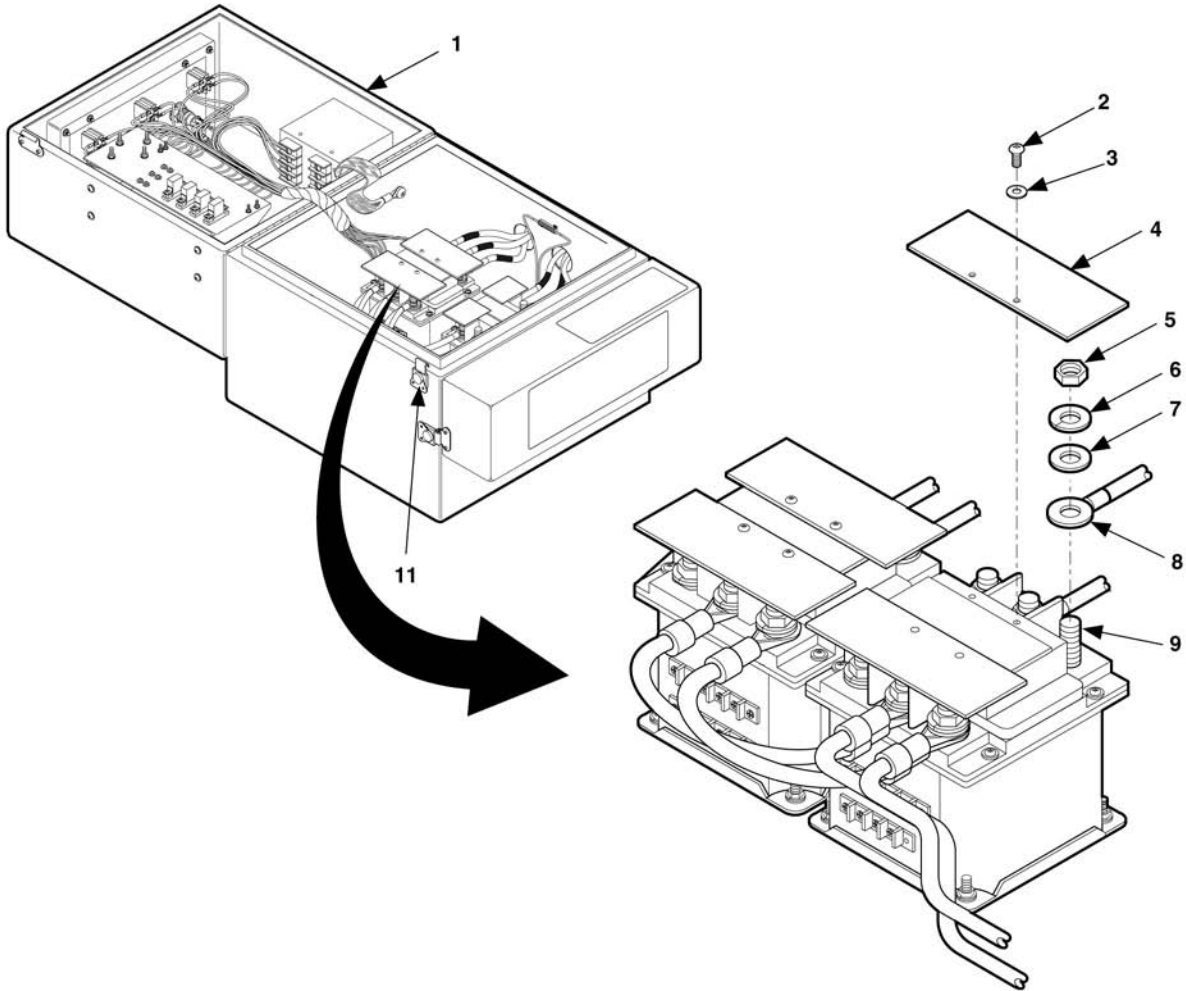
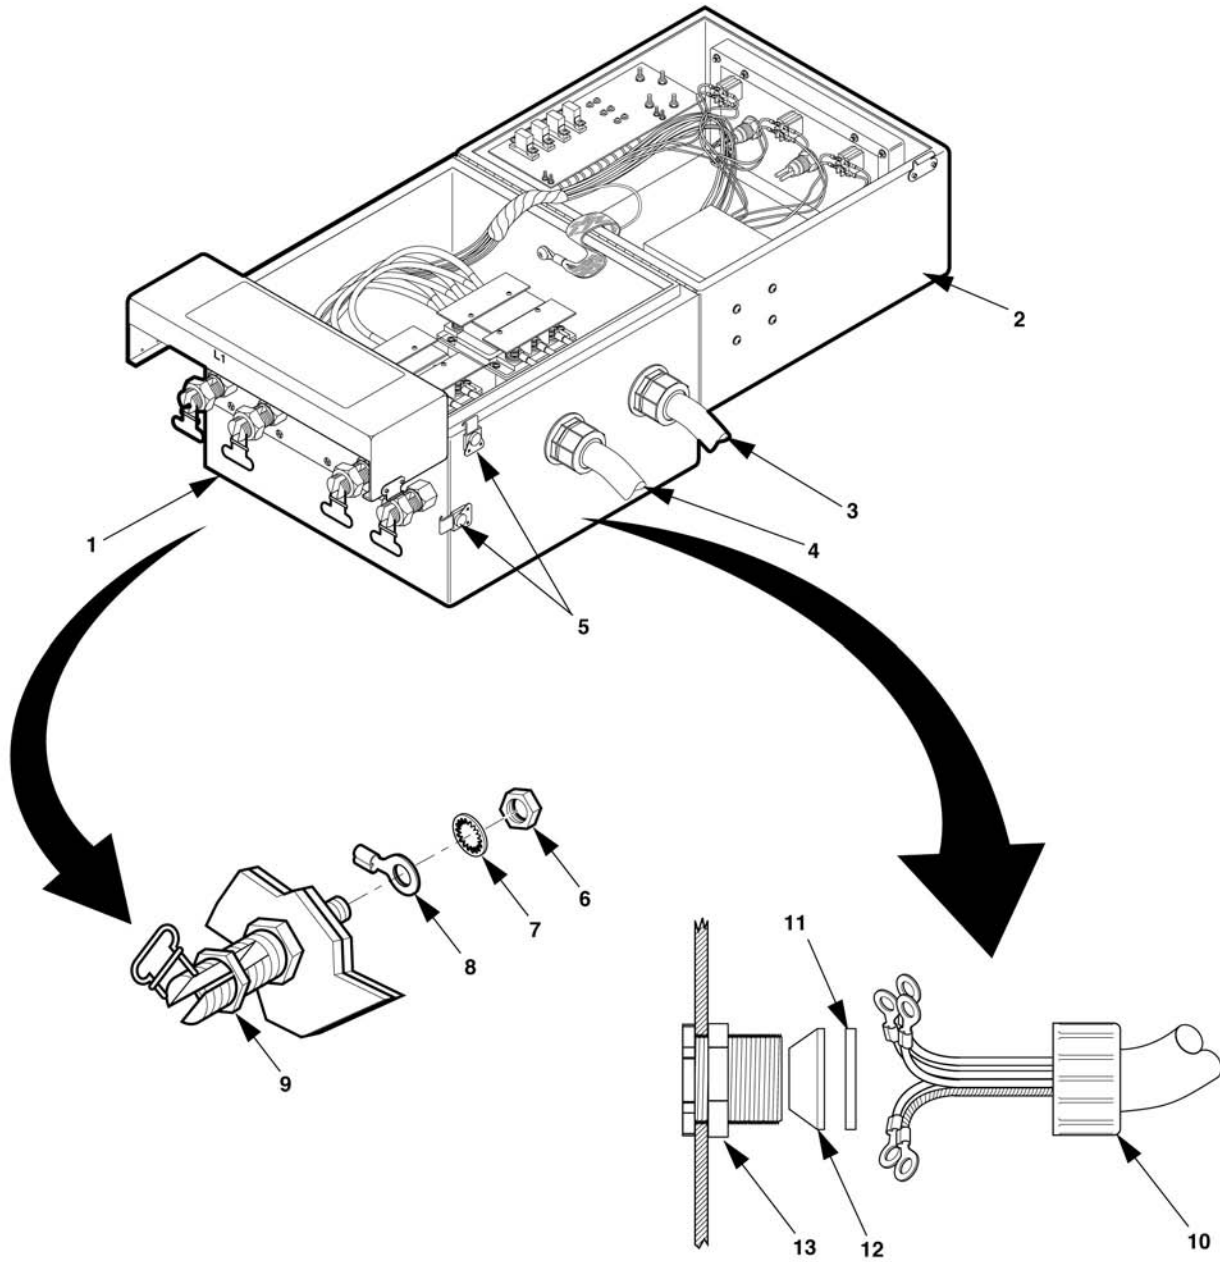

Figure 4-7. Power Cable Connections to Switch Box Contactors.
Figure 4-9. Disconnect Power Cable from Switch Box Terminals.
- a. Release clamping catches (11, Figure 4-7) and open switch box cover (1).
- b. Remove two screws (2) and lock washers (3) from contactor terminal shield (4) of contactor associated with power cable being removed.
- c. Remove contactor terminal shield (4).
- d. Remove nuts (5), lock washers (6), and flat washers (7) from contactor terminals (9).
- e. Lift terminal leads (8) from contactor terminals (9). Remove only the terminal leads associated with electrical leads of power cable being removed. If necessary to remove other terminal leads to access those for power cable being disconnected, reinstall other terminal leads onto contactor terminals (9).
- f. Install flat washers (7), lock washers (6), and terminal nuts (5) on contactor terminals (9).
- g. Remove hex nuts (6, Figure 4-9) and internal tooth washers (7) from ground and N terminals (9) of switch box.
- h. Remove only the wire associated with the power cable being replaced. If necessary to remove other terminal leads to access those for power cable, reinstall other terminal leads on terminal (9).
- i. Place internal tooth washers (7) over the end of terminals (9) and loosely install the hex nuts (6).
- j. Remove stuffing tube compression nut (10) from stuffing tube body (13).
- k. Pull power cable (3) or (4) through stuffing tube until ends of power cable are free of stuffing tube body (13).
- l. Remove washer (11), seal (12), and stuffing tube compression nut (10) from power cable (3) or (4). Place items back on stuffing tube body and tighten.
1. Install stuffing tube compression nut (10, Figure 4-9), washer (11), and seal (12) on end of power cable (3) or (4) having leads with terminal lugs.
2. Insert terminal lug end of power cable (3 or 4) into stuffing tube body (13) and slide forward until end of power cable outer covering is visible inside switchbox (1).
3. Slide seal (12), washer (11), and stuffing tube compression nut (10) forward and tighten compression nut.
4. Remove hex nut (6) and internal tooth washer (7) from load terminal N (9) and install lead marked N.
5. Install internal tooth washer (7) and hex nut (6). Tighten hex nut.
8. Close switch box cover (2) and secure with clamping catches (5).